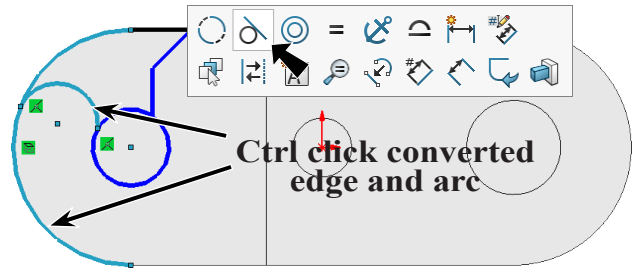

Fig. 31
Step 11. **Ctrl click converted circular edge and arc to select both.** Release Ctrl key and click **Make Tangent**  on the context toolbar, **Fig. 31.**